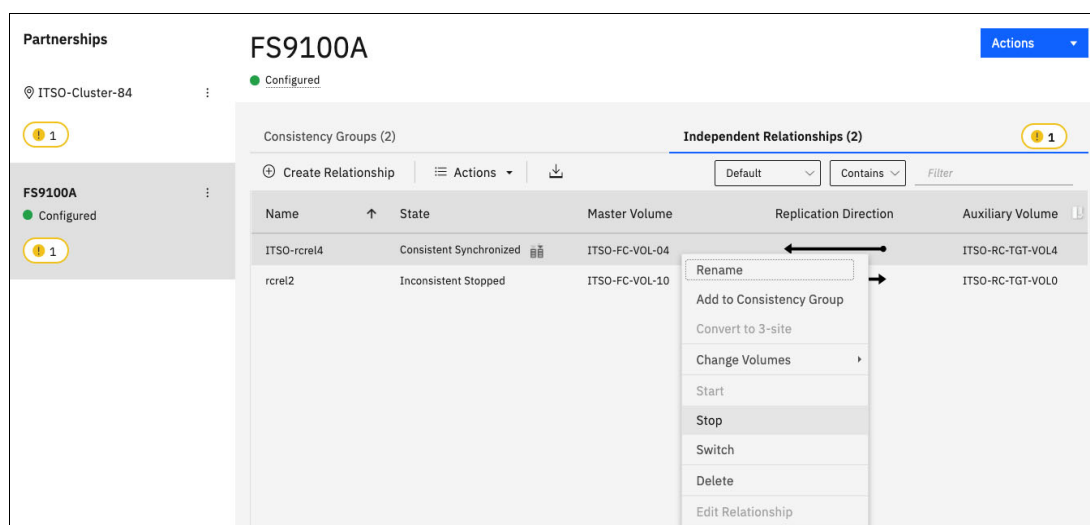

Figure 10-141 Stopping a Remote Copy relationship
- Select the target RC system and go to the **Independent Relationships** tab. Right-click the relationships to be stopped and select **Stop**, as shown in Figure 10-141.